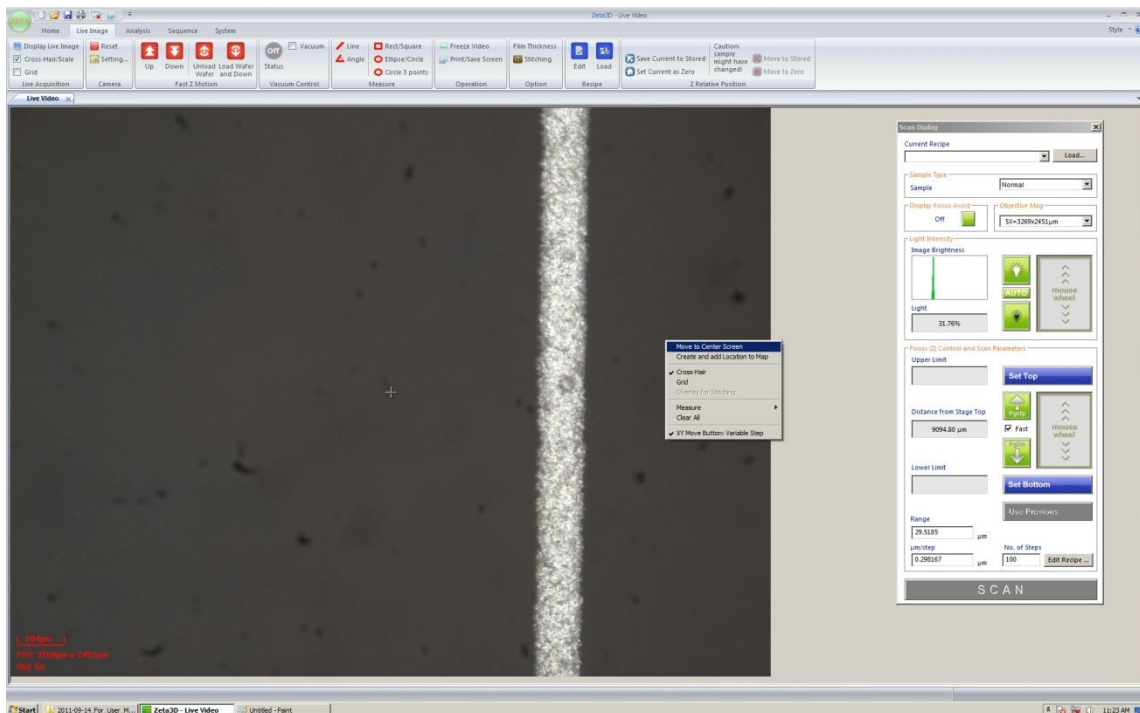

Fig. 26. Live video image window with right-click menu and Scan Dialog window
A live video image window is displayed on the screen. A dialog box titled *Scan Dialog* appears on the right side, as shown in Fig. 26. However, the image is not usually in focus at first.
- To center a feature in the live video window, right click within the window and select the *Move to Center Screen* option, as shown in Fig. 26.